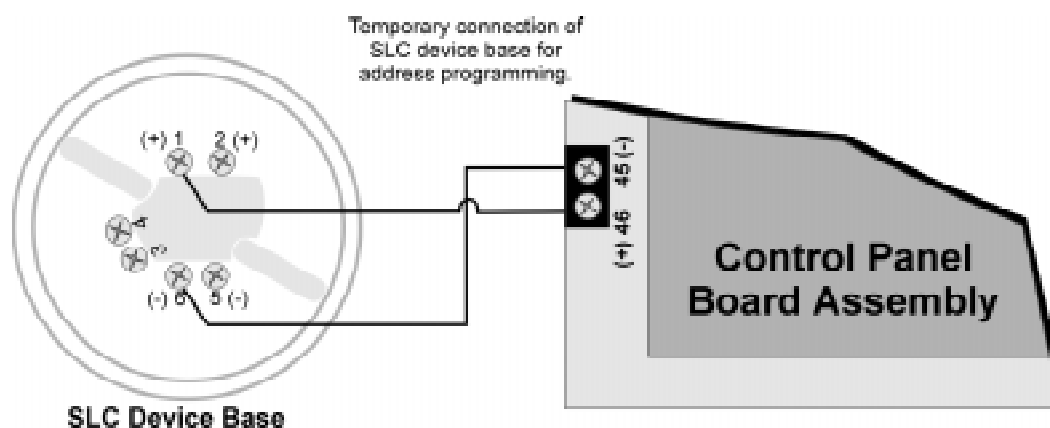

Figure 5-14 Temporary of Detector Base to Panel for Addressing
1. Connect a detector base temporarily to the programming terminals as shown in Figure 5-14. (You can use the same base for each detector.)